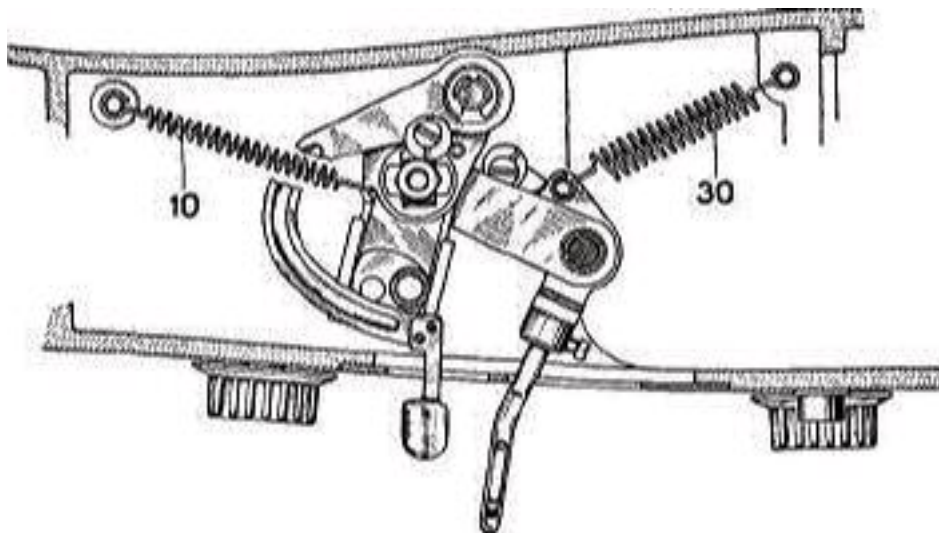

Fig. 52
- Slip retaining ring " 11A " into the upper groove of the pin " 15 ". 1) Attach spring " 10 " (Fig. 52). m) Attach spring " 30 " (Fig. 52).